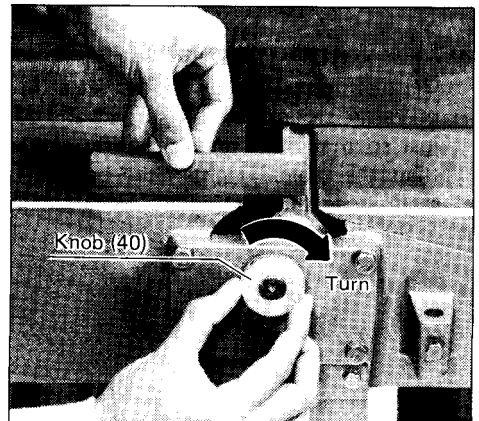

Fig. 24
- After unlocking the drum, press down the wooden leveler on the blades slightly and turn the knob slowly in the direction of the arrow. (See Fig. 24). The wooden leveler should slide about 3 mm (1/8") to 5 mm (3/16") when the blade setting is perfect.